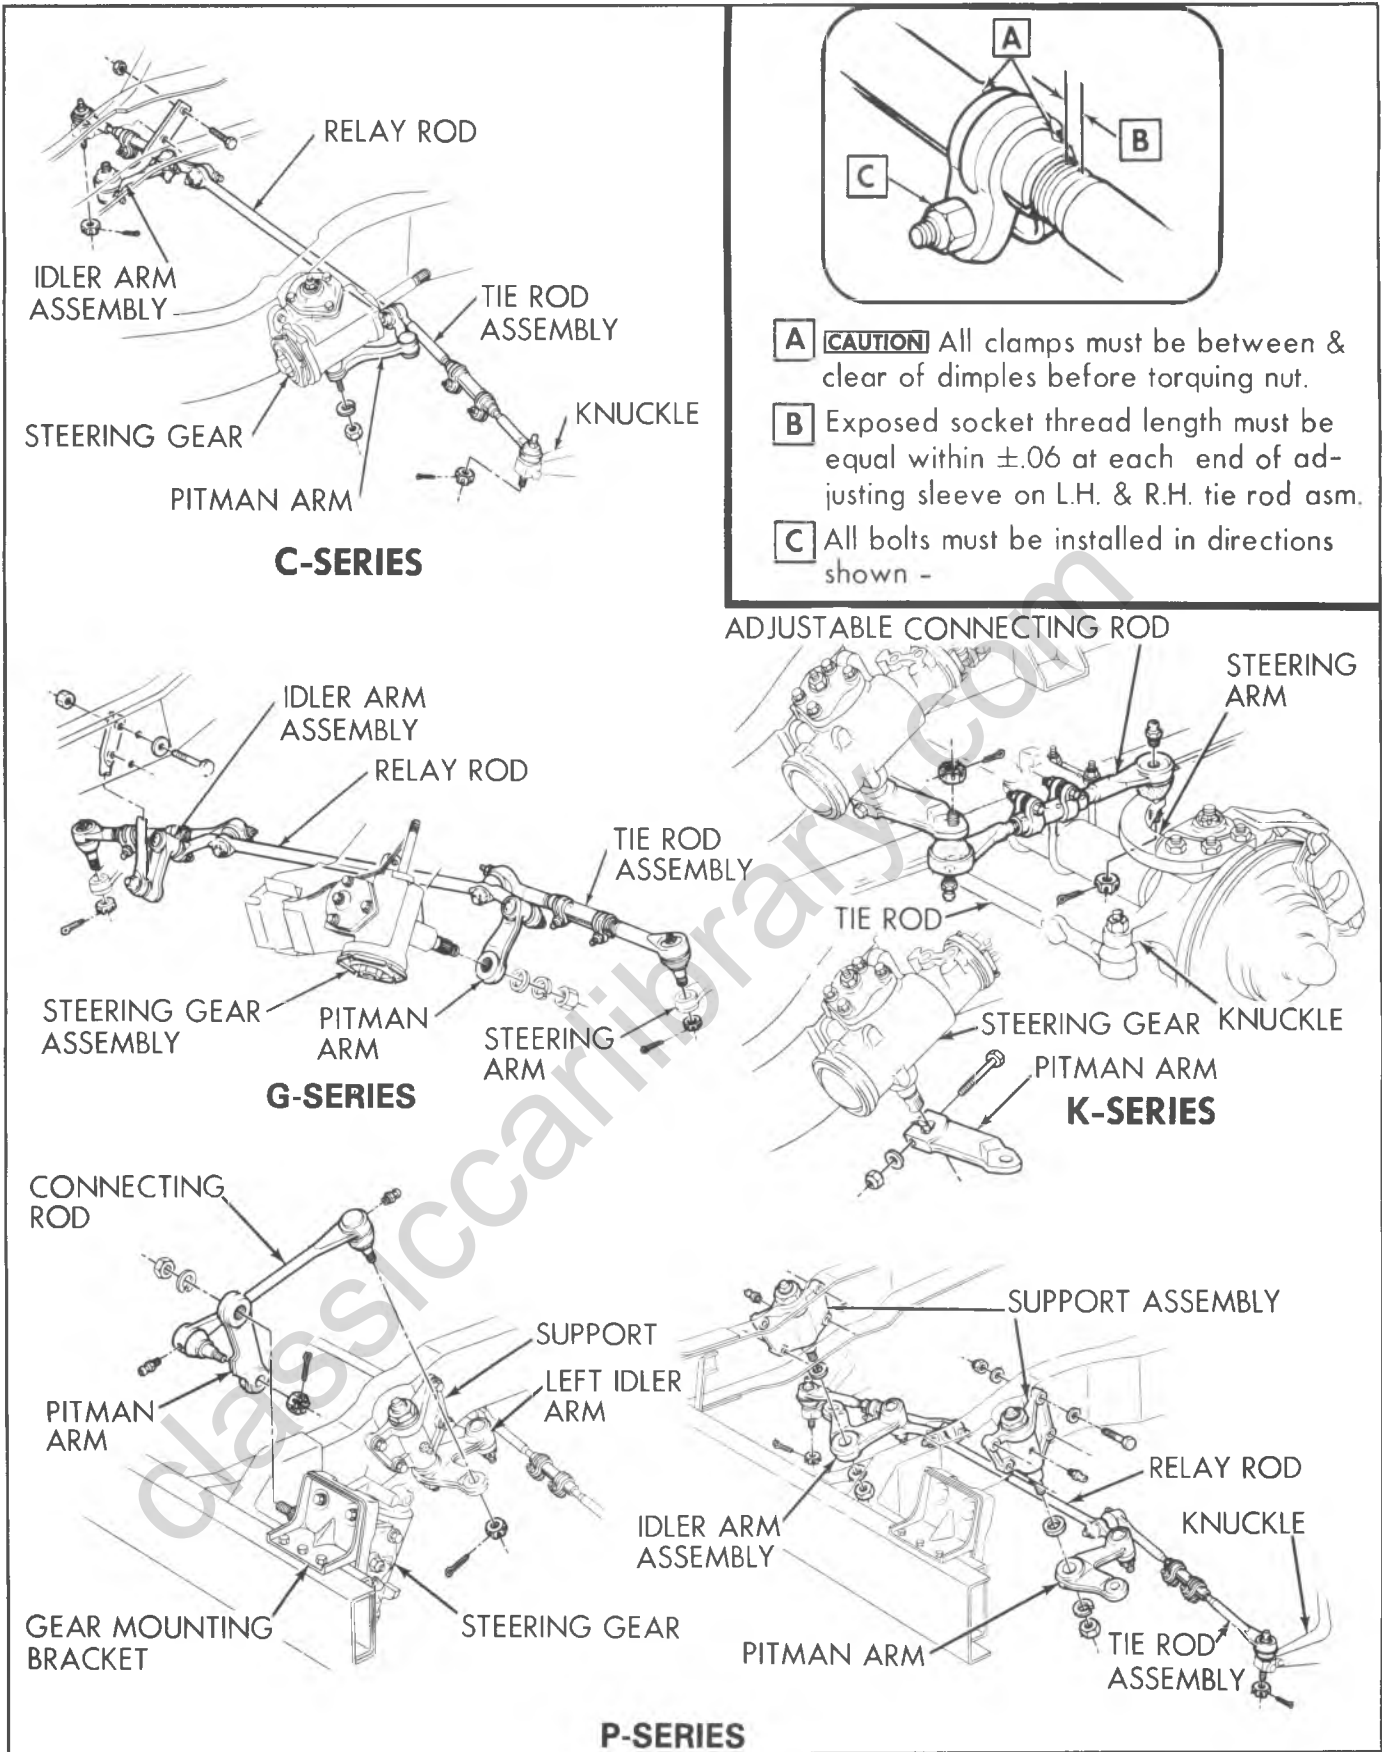

Fig. 3B1-5--Steering Linkage
- c. Rotate outer tie rod end counterclockwise (up) to maximum position. Attach bevel protractor as shown in Figure 3B1-9. Center protractor bubble indicator and record reading.